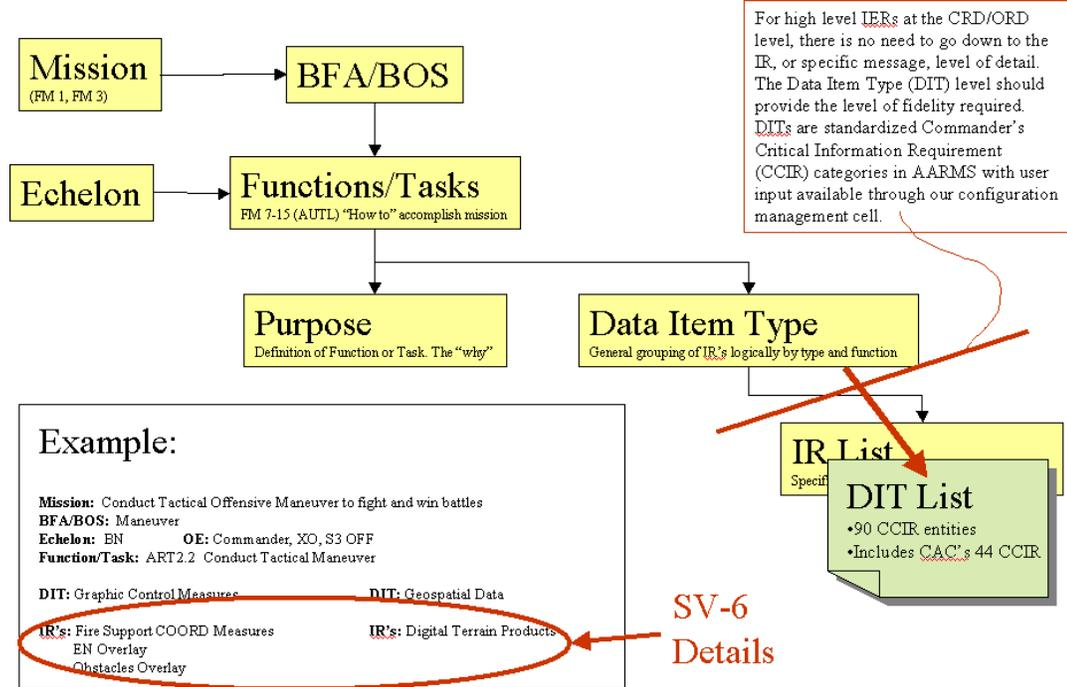

Figure 1
In the previous versions of AARMS, the Information Exchange Matrix (IEM) began with the decomposition of the mission or capability into required functions and tasks by echelon to accomplish the mission or to fulfill the capability requirement. These tasks were then cross-referenced with established standard Information Requirements (IR) (Messages) that were categorized into Data Item Types (DIT). (figure 1) Each IR was assigned default performance parameters so the IEM fields would be auto-generated. AARMS 2.1 has shifted the methodology to generate a higher level IEM at the DIT level to better support the majority of the Operational
Architecture and program development community. (Changes shown in red in Figure 1) Instead of over a thousand IR combinations that had to be defined before hand into "Message Sets", the user will now have a more manageable (90 initially) DIT's to contend with that can be assigned easily to any task and Node on the fly. Also, the user will now have only the DIT's as Input and Output ICOM arrows for Activity Modeling. This will make it much easier to manage and track. The user will also have the ability to add additional DIT's to AARMS via table configuration management by the AIMD Table Manager. For example, the original 44 Critical Commanders Needs identified by CAC are included in AARMS as DIT's. DIT's are assigned default performance parameters like IR's so the IEM will be auto-generated as before. The user will still have the ability to edit the default values for the IEM with a new, easier to use editor.